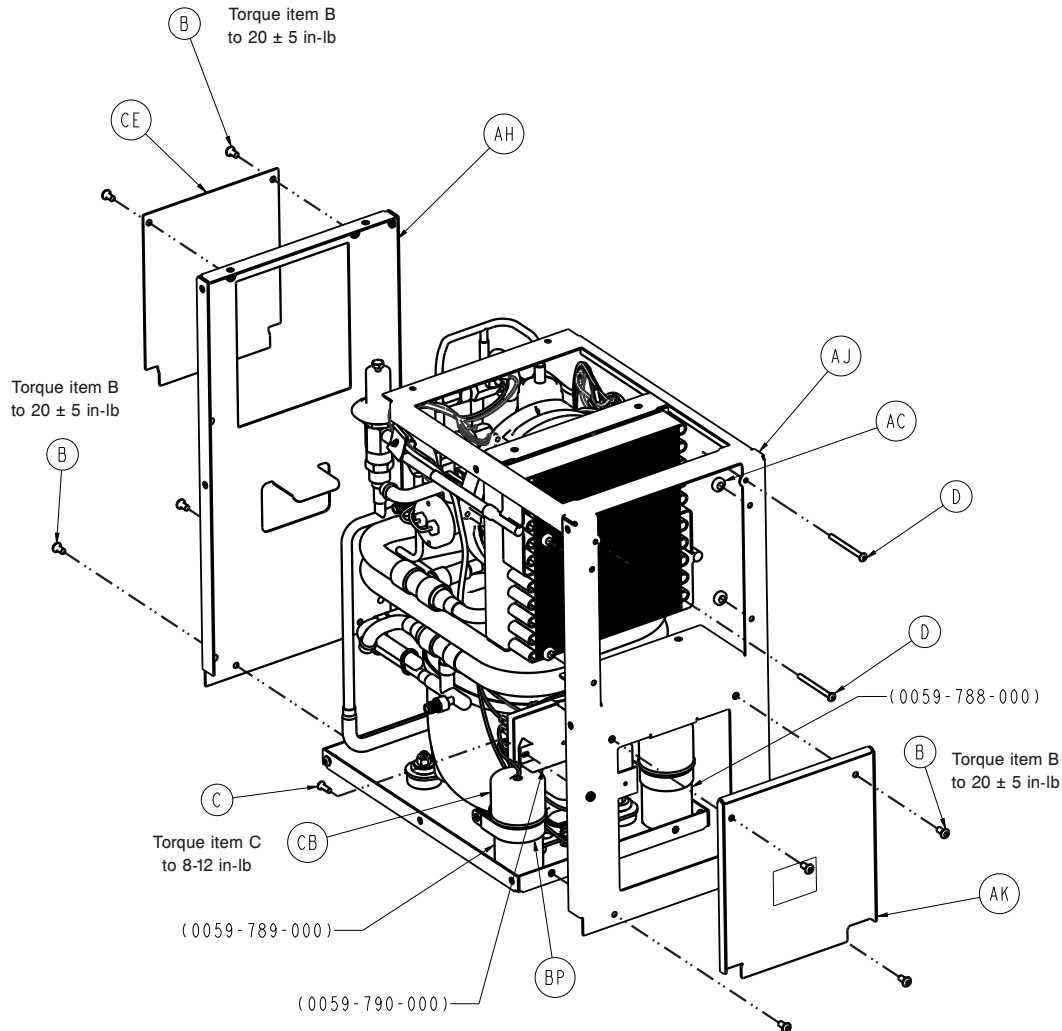

Figure 28: Fan assembly
14. Using 3/32" Hex, remove the two screws (D) that secure the fan assembly to the product (Figure 28 on page 42).